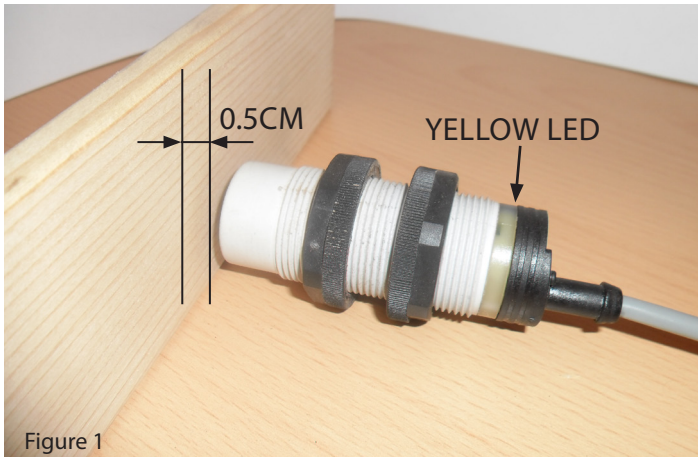

Figure 1
- ◆ Position a **wooden** board in front of the probe (see figure 1) at a distance of approx. 0.5cm.